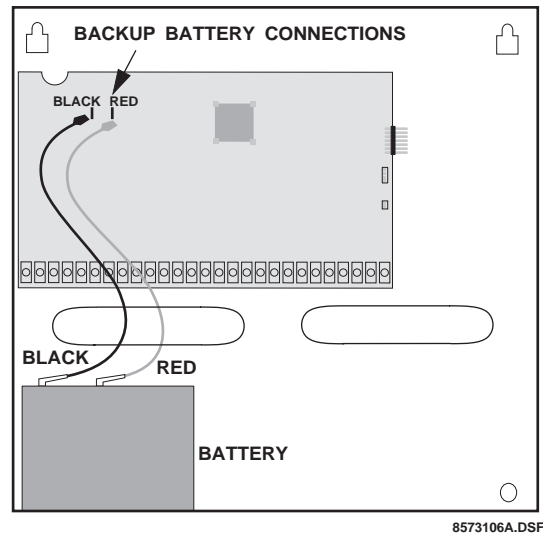

Figure 37. Connecting the Backup Battery to the Panel (Hardwire Panel Shown—Combination Hardwire/Wireless Panel Similar)
1. Connect the red and black battery leads (included with panel) to the lugs located in the upper-left area of the panel circuit board (see Figure 37).